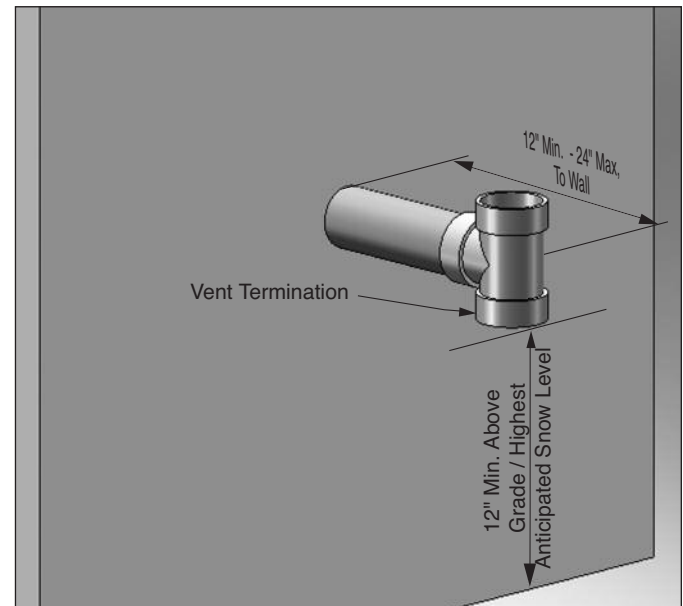
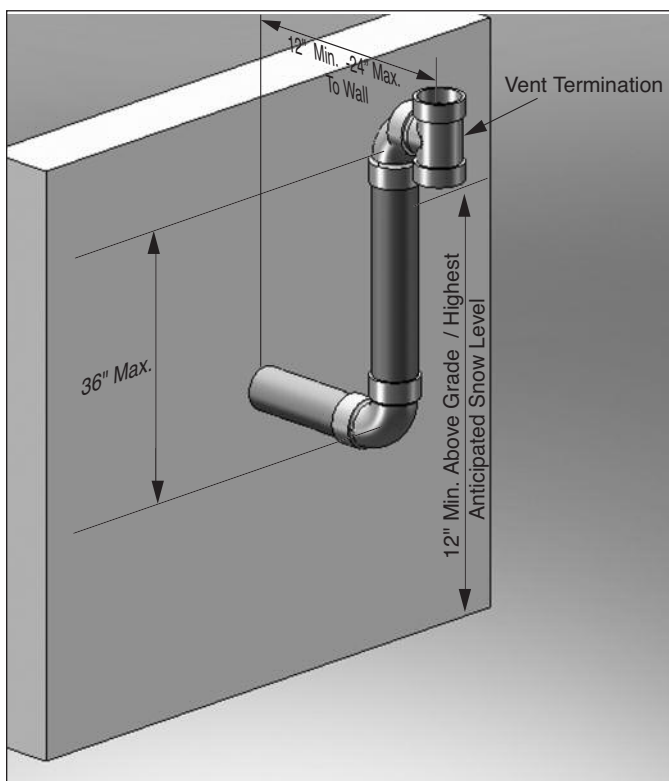

Fig. 27: Category IV - Sidewall Termination of Vent Pipe with Tee Termination
Fig. 30: Category IV - Sidewall Snorkel Termination of Vent Pipe with Tee Termination
- Using a tee as shown in Fig. 27 page 26 or Fig. 30 page 27.